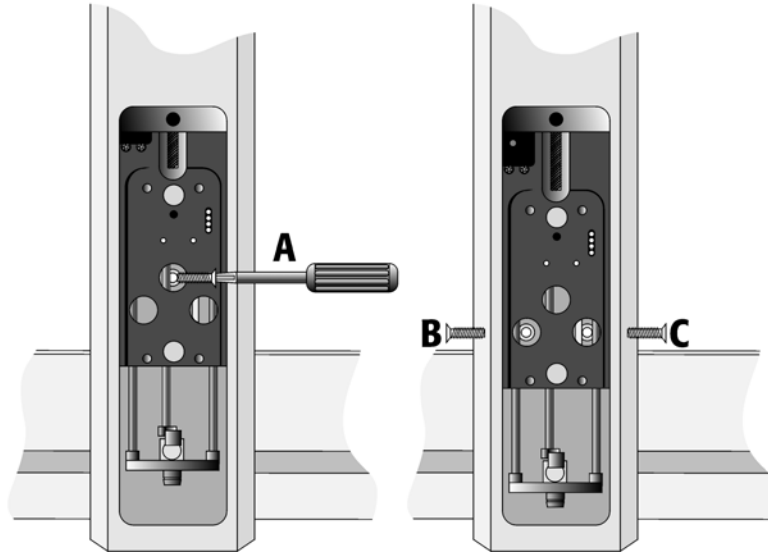

Figure 8. Inserting the Injection Unit Mounting Torx Screws
Installation of the Injection Unit should be done carefully. When installing it for the first time, have someone hold it in place while the mounting screws are inserted (see Figure 8).
- 4 Locate the three large holes in the black anodized frame attached to the Z Crossrail inside the Injection Unit. Slide the frame upwards until the top hole is centered on the top threaded hole in the end of the Y Crossrail. Insert and securely tighten the Torx screw **A** (see Figure 8).